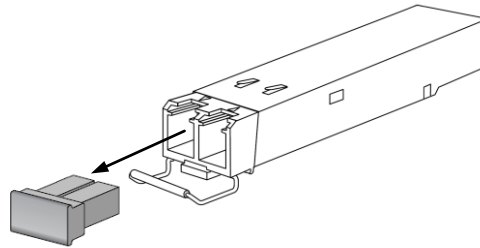

Figure 6 : SFP+ Module with bale clasp open and dust plug removed
2. Remove the dust plugs from the module as shown in Figure 6.